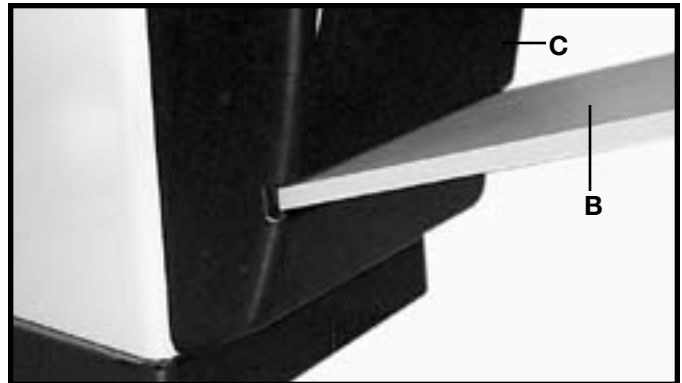

Fig. 16A
NOTE: YOU MUST CUT 5" OFF ONE END OF THE SHELF FOR THE SHELF (B) FIG. 16A, TO SLIDE INTO THE NEW MOTOR COVER (C). DISCARD THE SHELF BRACKET AND SCREWS USED TO ATTACH SHELF TO SAW CABINET.